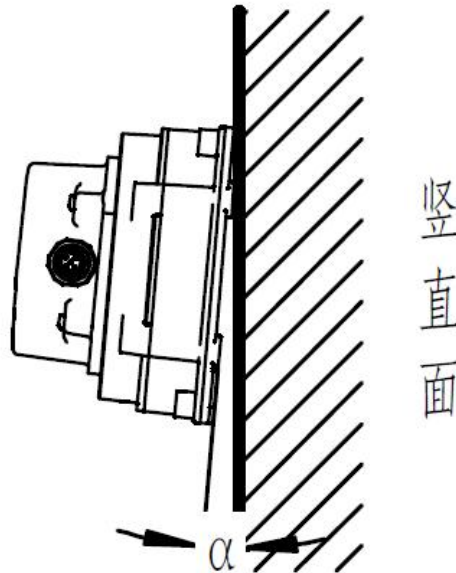

Figure 4.3-1
(1) The sensor mounting surface should be installed parallel to the vertical surface, and the angle α with the vertical surface should meet $-1^\circ \leq \alpha \leq +1^\circ$, as shown in Figure 4.3-1.